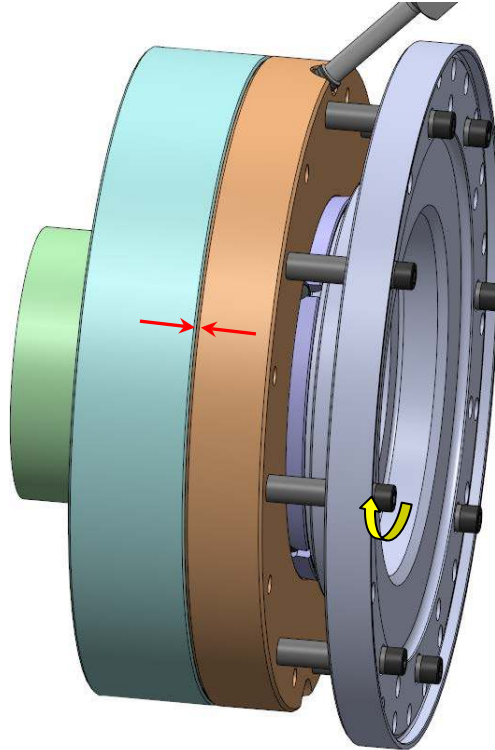

Figure 22 – Using Retraction Screws to Collapse HTC
6.7 If the hub does not slide easily on the shaft, the HTC may not be fully closed. Make sure the retention screws are completely loosened. Install the (8) retraction screws (see Figure 22). Tighten the retraction screws to 10 ft-lbs. The retraction screws will draw the clamp closed and loosen the hub on the shaft.